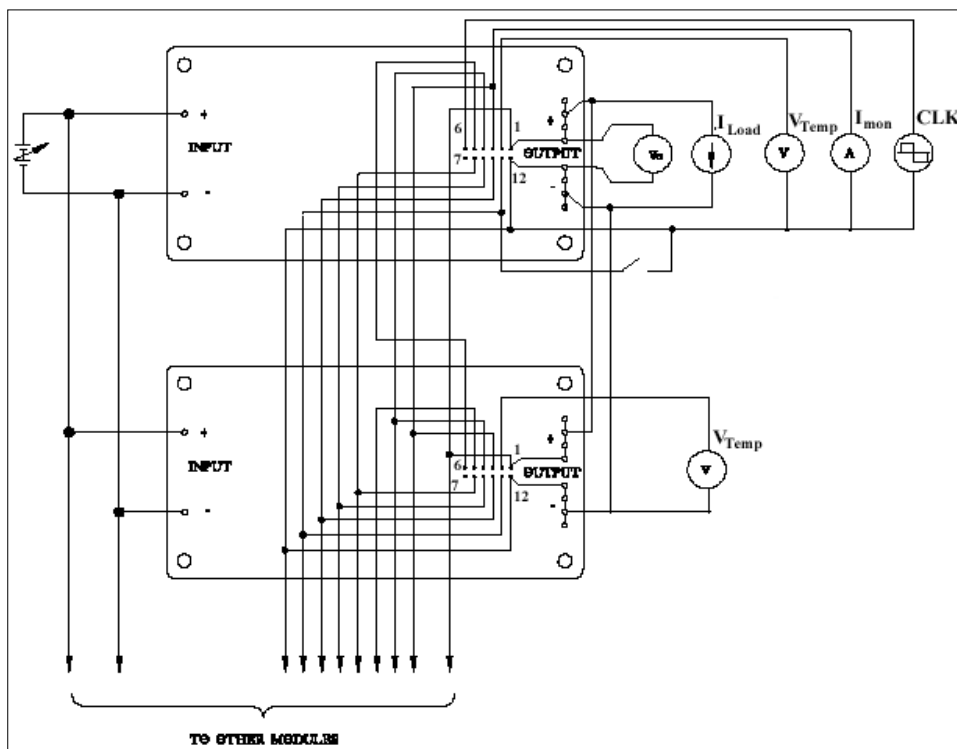

Figure 4. Modules Connection for Parallel Operation (View from baseplate).
5. See Figure 4 for modules in parallel connection.